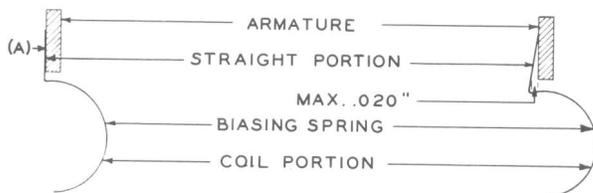

Fig. 1 — Allowable Variation in Biasing Spring Position
1.03 **Biasing Spring Position:** Fig. 1(A) —